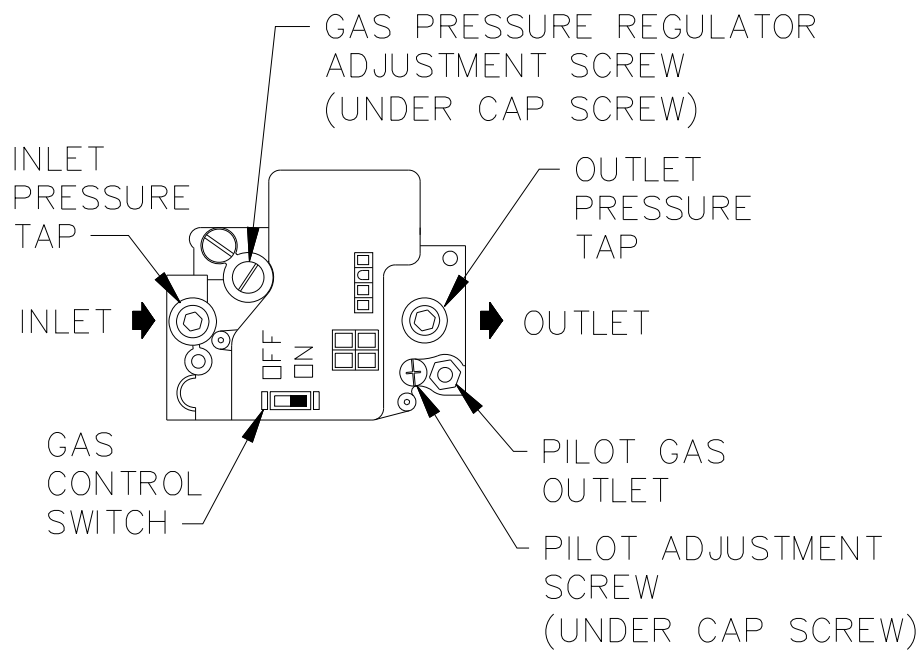

Figure 7.2: Valve Tapping and Adjustment Screw Locations
8. Connect a manometer to the 1/8" NPT inlet pressure tap on the gas valve. See Figure 7.2.
2. To adjust gas pressure, turn adjusting screw of gas pressure regulator counterclockwise to decrease pressure, clockwise to increase pressure. Refer to Figure 7.2 for location of gas pressure regulator. Replace the cap screw when adjustment is complete.